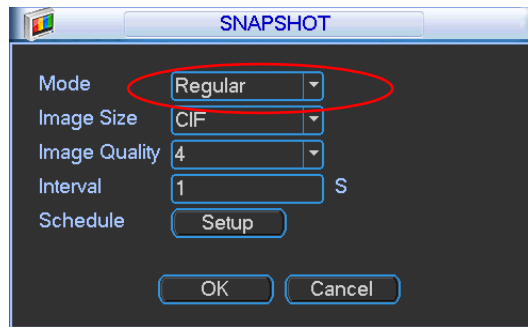

Figure 4-42
- In Encode interface, click snapshot button to input snapshot mode, size, quality and frequency. See Figure 4-42.